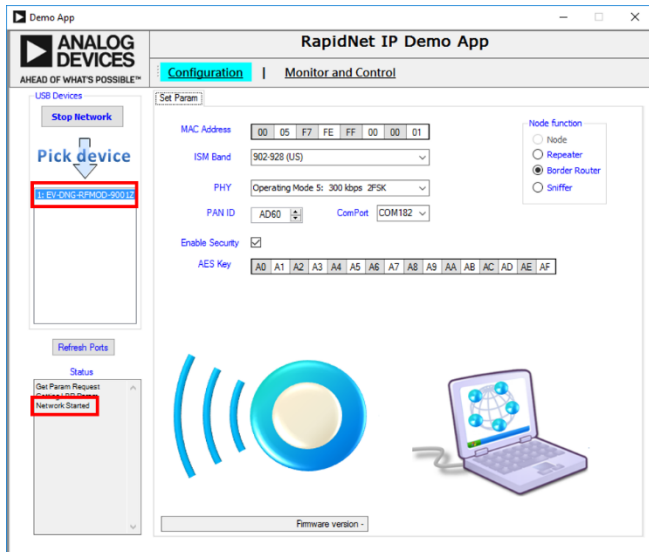

Figure 3. Starting the Network
3. Click **Refresh Ports** button to view the connected devices. **EV-DNG-RFMOD-9001Z** appears under **Pick device** section of the demonstration application (see Figure 3).
The **Network Started** message confirms that the ADI RapidNet IP network started successfully and is waiting for the node to join (see Figure 3).